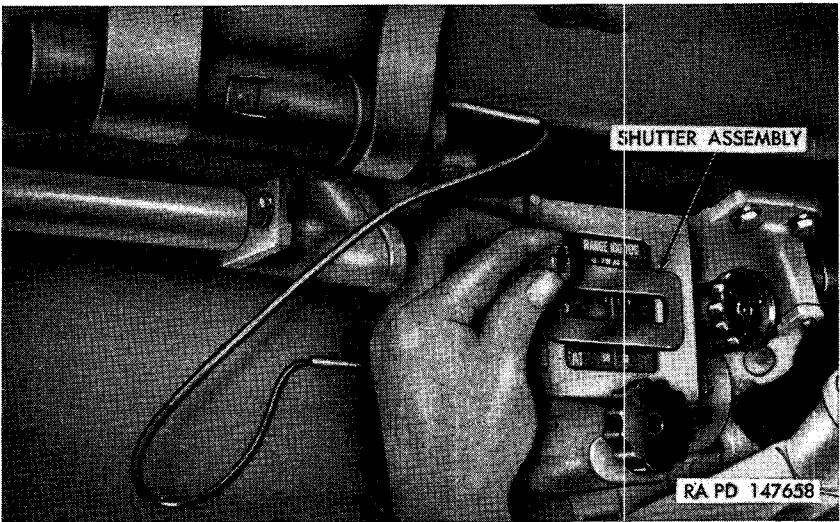

Figure 68. Sliding shutter assembly on ballistic drive T23E1.
- (4) Slide the shutter assembly (fig. 68) so that the pertinent ammunition scale is exposed. To move the shutter, squeeze the clamp on the left side of the shutter assembly until the detent is freed from the notch; then slide the shutter assembly up or down as required. To lock in place, release the clamp.